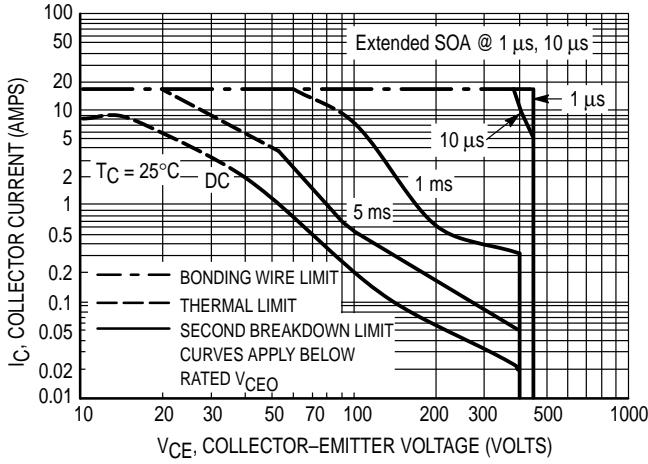
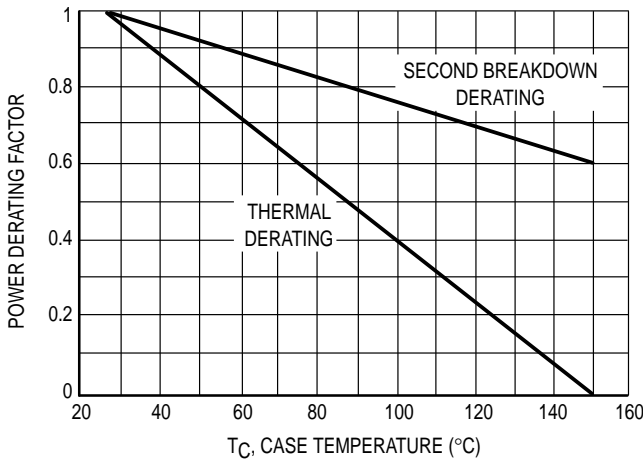

Figure 6. Maximum Forward Bias Safe Operating Area
Figure 8. Forward Bias Power Derating
The data of Figure 6 is based on $T_C = 25^\circ\text{C}$; $T_{J(pk)}$ is variable depending on power level. Second breakdown pulse limits are valid for duty cycles to 10% but must be derated when $T_C \geq 25^\circ\text{C}$. Second breakdown limitations do not derate the same as thermal limitations. Allowable current at the voltages shown on Figure 6 may be found at any case temperature by using the appropriate curve on Figure 8.
The sustaining or active region voltage requirements in switching applications occur during turn-on and turn-off. If the load contains a significant capacitive component, high current and voltage can exist simultaneously during turn-on and the pulsed forward bias SOA curves (Figure 6) are the proper design limits.
- (1) The device thermal limitations are not exceeded.
- (2) The turn-on time does not exceed 10 μ s (see standard pulsed forward SOA curves in Figure 6).